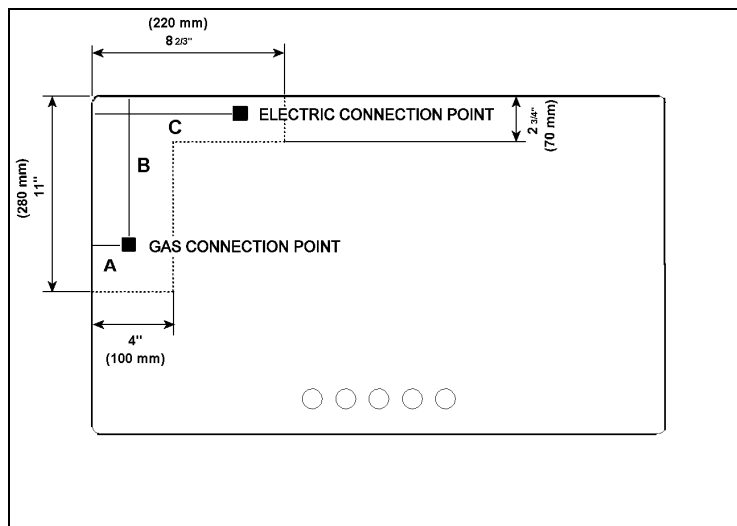

Fig.5B
3. Before installing the hotplate consider the location of the gas supply and routing the gas line. (Refer fig.5B)